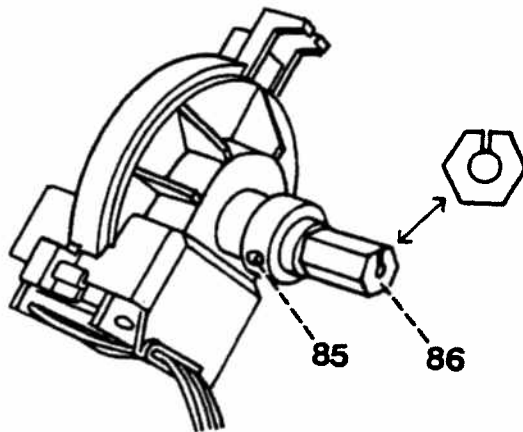

Fig. 26b
- Loosen fixing collar screw 85 (fig. 26b).